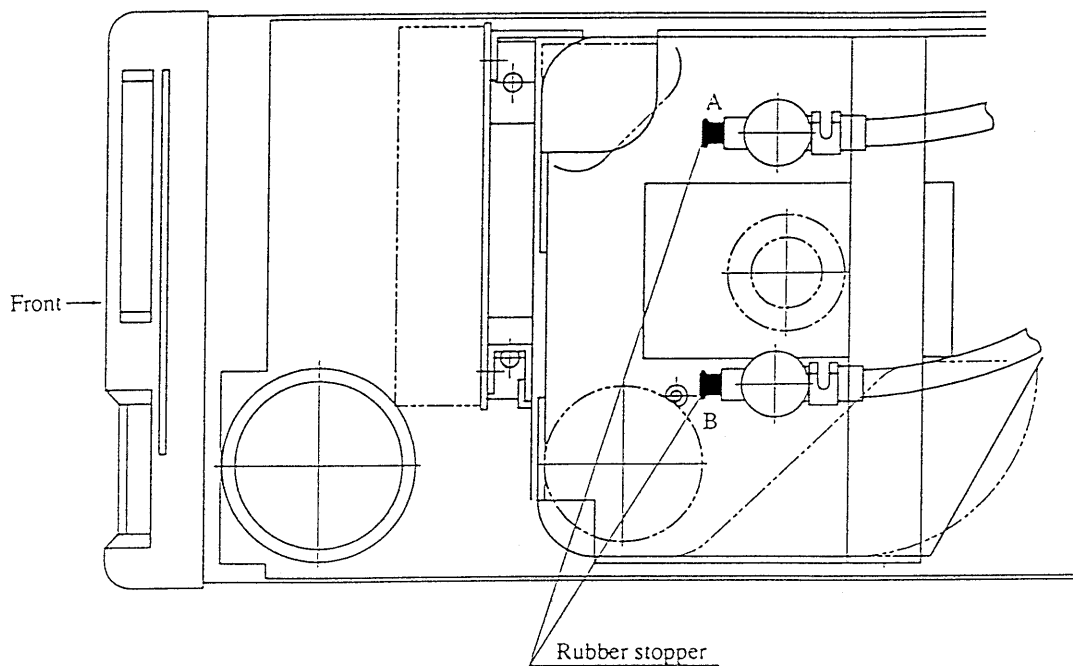

Fig. 6 Rubber stoppers on exhaust trap
- 2) Remove rubber stoppers A and B on the exhaust trap located on the top of the deionized water tank (Fig. 6).